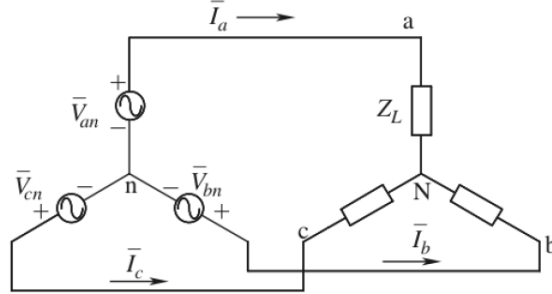

Figure 2: Balanced wye connected, three-phase circuit.
5. In the three-phase circuit of Figure 2,  $|Z_L| = 10 \Omega$ , and the per-phase power factor is 0.8 (lagging). Calculate the per-unit values of the per-phase voltage, the load impedance, the load current, and the load real and reactive powers,